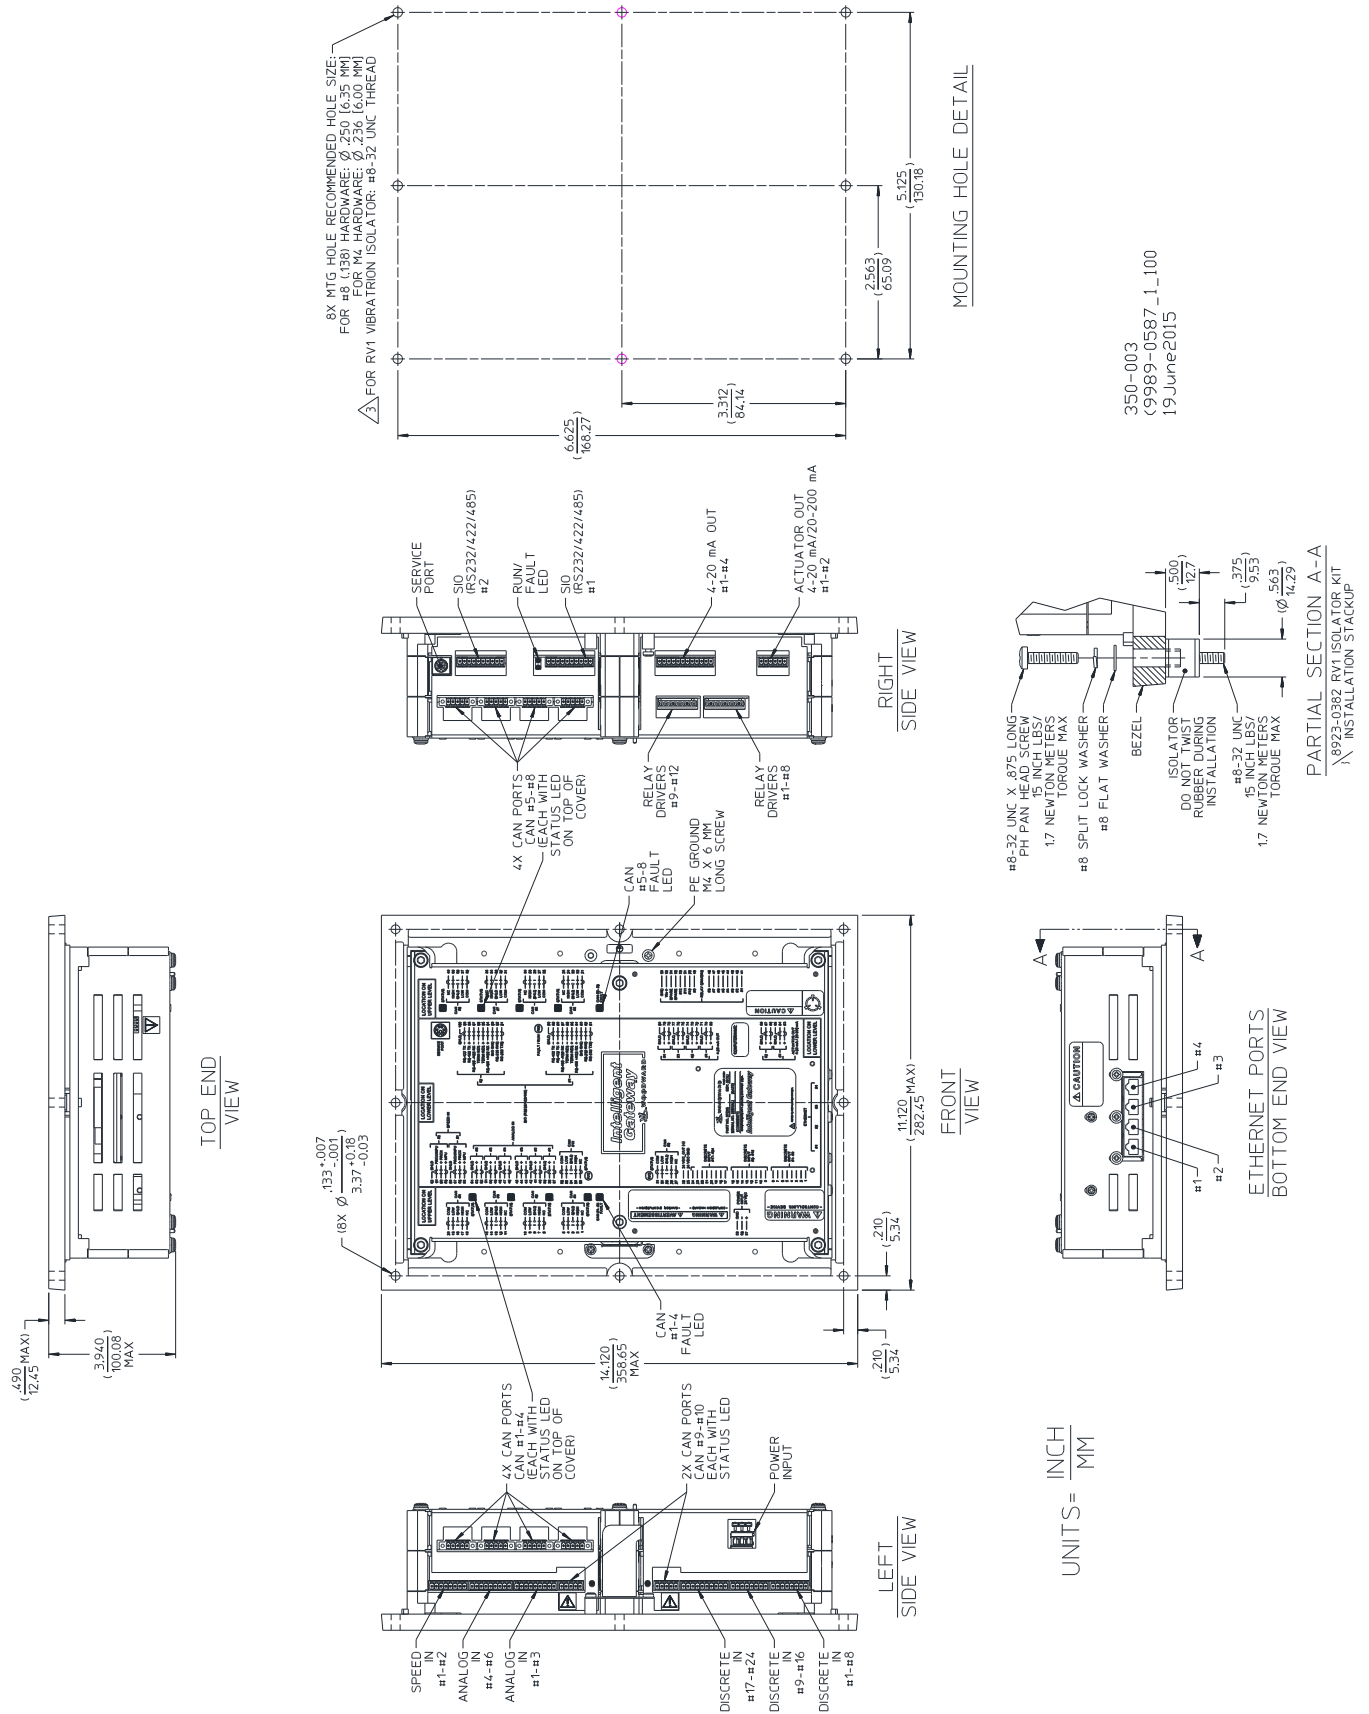

Figure 5-1. Optional RV1 Isolation Kit Installation
Figure 5-1 shows the Intelligent Gateway mounting pattern. The Intelligent Gateway is to be mounted in an appropriate enclosure for the installed environment. This equipment is designed for installation within a control room panel inside an enclosure/cabinet or standalone enclosure or cabinet.
Protective Earth (PE) Ground (see Figure 5-1) must be connected to the termination point on the base plate of the unit next to the label with the symbol  to reduce the risk of electric shock. This connection will be made using a thread-forming screw (M4 x 6 mm). The conductor providing the connection shall have a properly sized ring lug and wire larger than or equal to 3.3 mm² (12 AWG).